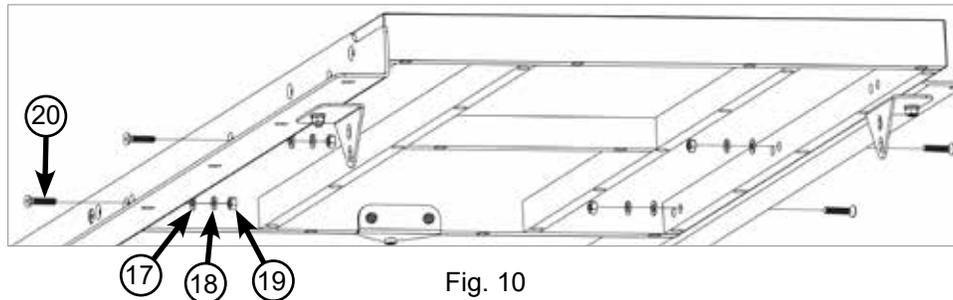

Fig. 10
- The extension table mounts to the rails with bolts that pass through holes in the rails and extension table (see Fig. 10). If you have an extension table for a 36" fence system, take two M8 x 35 countersunk socket head bolts and insert one through the hole in the front rail closest to the saw and the other through the hole in the rear rail closest to the saw. If you have an extension table for a 52" fence system, take four M8 x 35 countersunk socket head bolts and insert one bolt into each of the two holes in the front rail closest to the saw, and one bolt into each of the two holes in the rear rail closest to the saw.